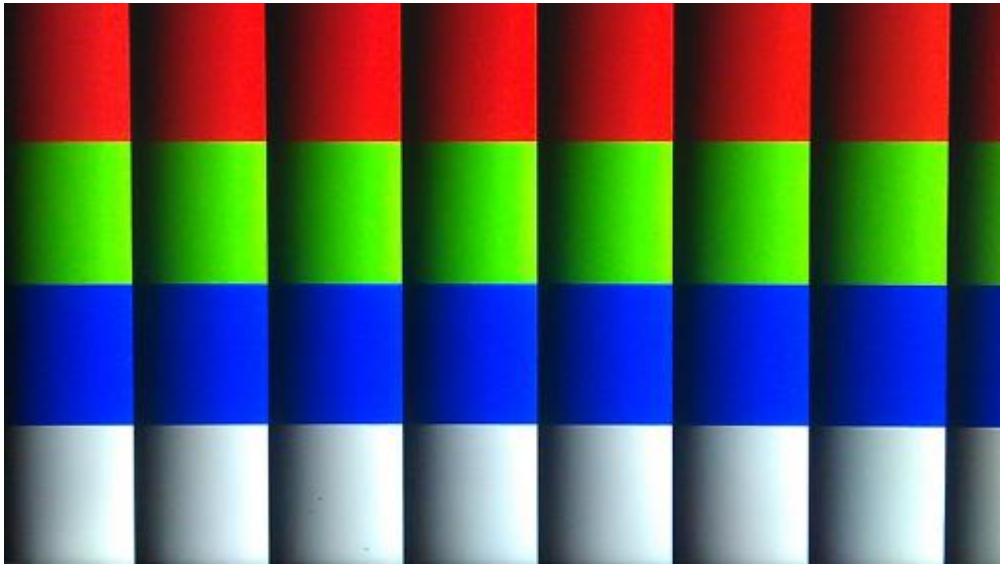

Figure 2-22 The video pattern in the HDMI TX demonstration
- 1080p@60 color bar should be visible on the monitor, as shown in **Figure 2-22**.